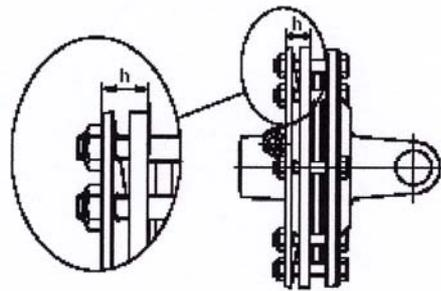

Fig 2
- Dismantle and clean PTO sliding surfaces and re-grease. Grease universal joints (Fig 2)
- Grease PTO inner tube and push pins (Fig 2)